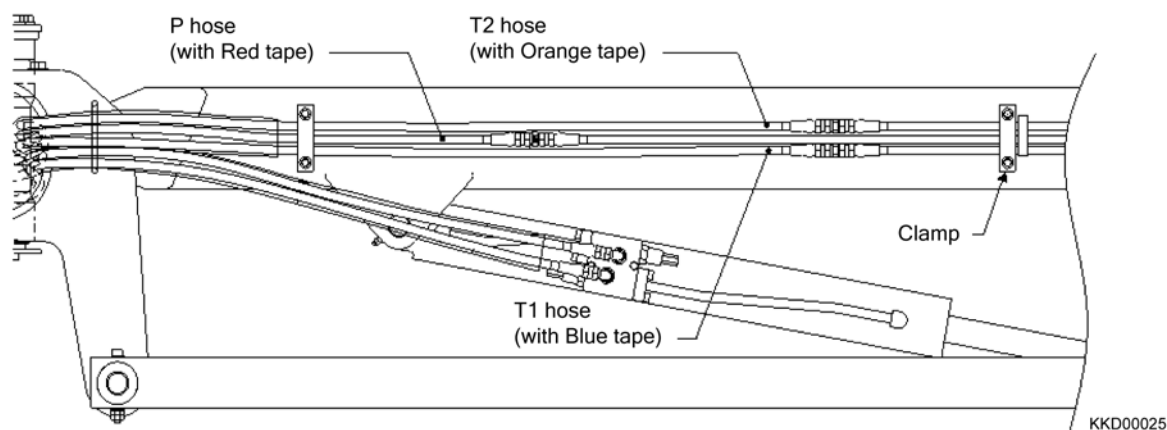

Fig. 2-54
- 6) Tag, Disconnect the T1 hose, P hose and T2 hose and then plug the fittings on the hose ends. (Fig. 2-54)